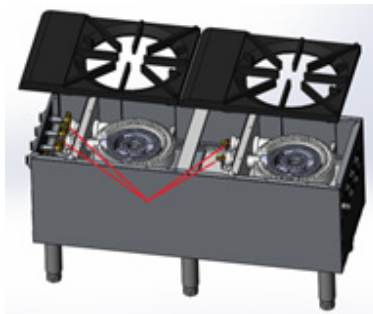

Fig.5
1. Take out the grate on top. You can see the orifice is on front of the burner (Fig.5).